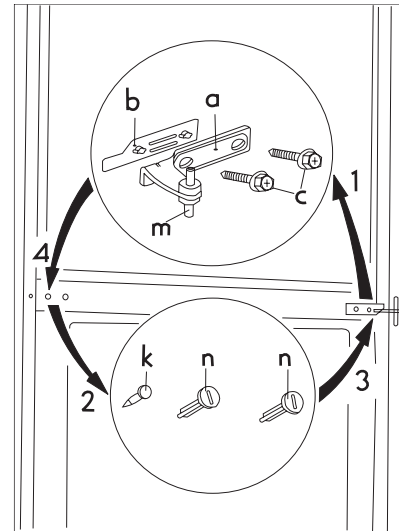

fig. 2.
3. Open the doors and dismount the double door hinge (a,b) by removing the screws (2 pieces) (c). (fig. 2)
4. Take off the double door hinge (a,b,c) by gradually removing it from the cabinet, slightly tilting both doors. Do not forget to remove the plastic spacer (b) under the hinge. (fig. 2)
11. Remove the blanking pins (3 pieces) (n,k) of the double door holder on the left side and put them to the other side. (fig. 2)
12. Fit the pin of the double door hinge (m) into the left drill of the freezer door. (fig. 2)